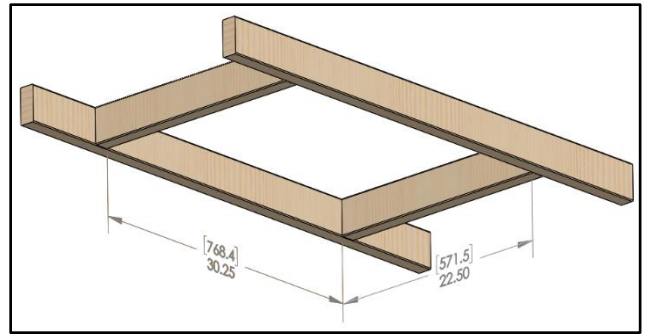

Figure 1
1. Prepare rough opening between 24" on center roof trusses, 22.5" x 30.25" inside dimensions. (Fig. 1)